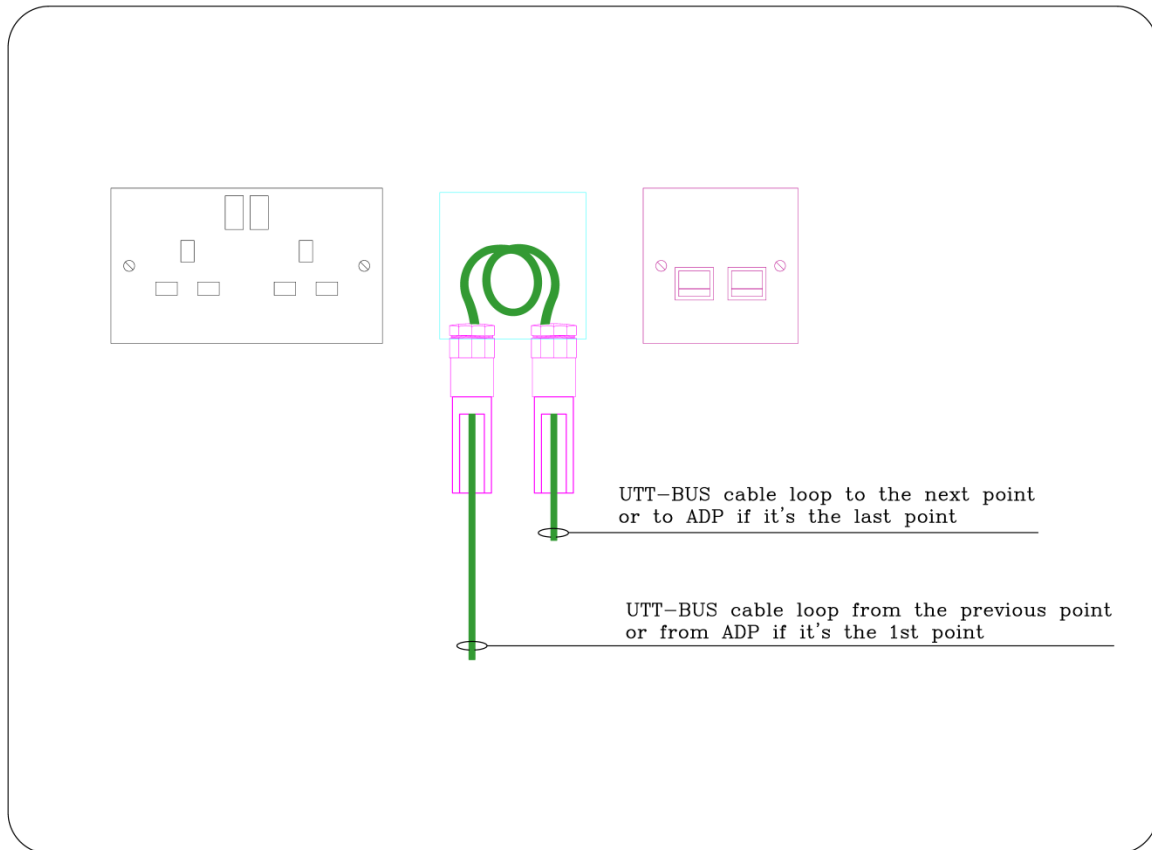

Figure 1.1.15: E Outlet Layout
1.1.9 ENTERTAINMENT (E) OUTLET
- According to the telecom guidelines, at least 1 dual data socket is available in the living room zone at the TV location. Next to this data socket, an outlet labeled as E should be provided as shown in Figure 1.1.15 along with a dual power socket.